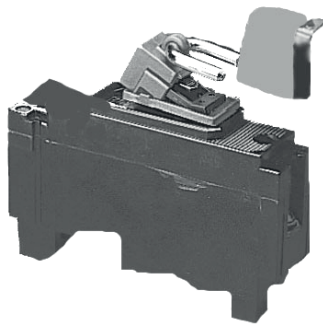

Figure 2
4. Insert a padlock through the lockout device (see *Figure 2*).